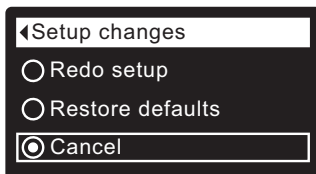

FIG. 31
1. From any of the rolling status screens, press the SELECT (O) button to display the **Main menu**.
3. Press the SELECT (O) button to display the Advanced settings menu.
5. Press the SELECT (O) button to display the Troubleshooting menu.
7. Press the SELECT (O) button to display the Setup changes menu (See Figure 31).
8. Press the RIGHT (▶) button. The flashing padlock icon will disappear, as shown in Figure 31.
9. Press the SELECT (O) button.